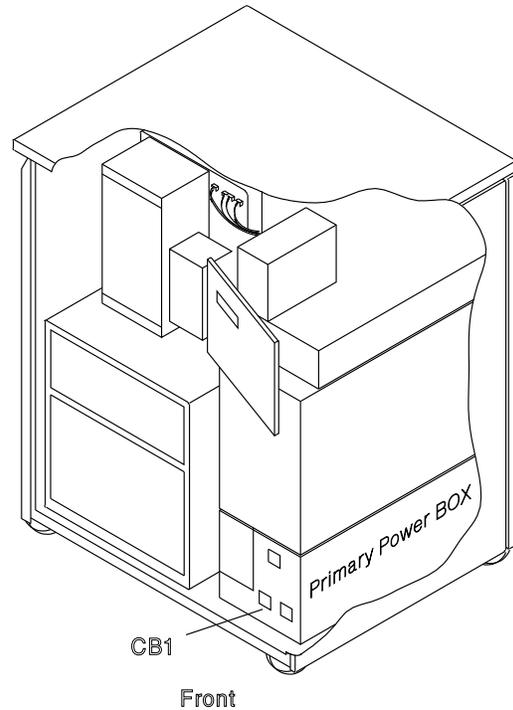
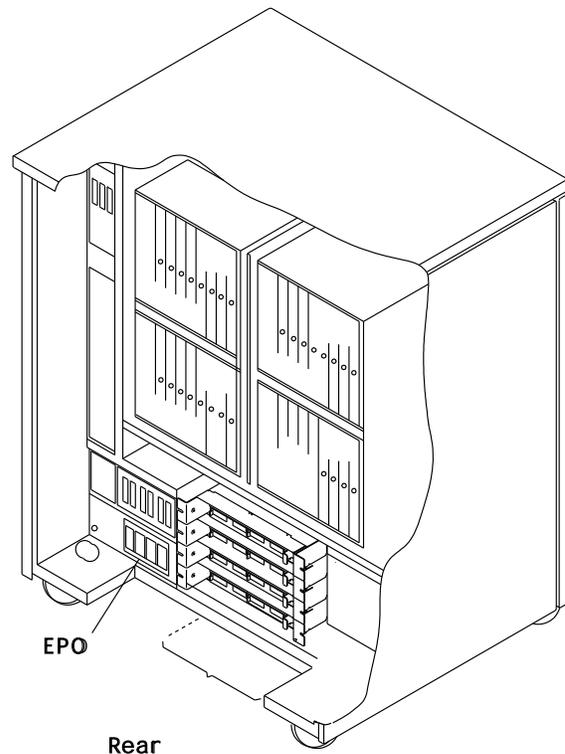

Figure 4-98. Primary Power Box and CB1 Locations
Figure 4-99. EPO Location
4. **Switch CB1 OFF.** Refer to Figure 4-98.
6. Locate the primary power box and the EPO. Refer to Figure 4-98 and to Figure 4-99.